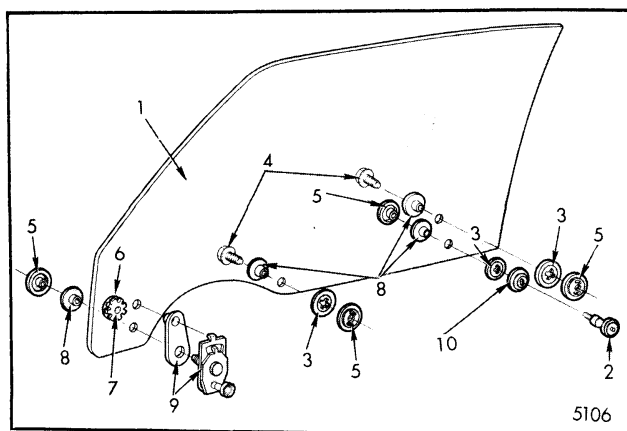

Fig. 5-103-Door Window Assembly
Figure 5-103 is an exploded view of the window assembly and identifies the various components and their assembly sequence.
**NOTE:** When installing glass attachments, torque attaching nuts to 72 inch pounds (6 foot pounds). Also, when replacing door glass, replace door glass washers and spacers ("3" and "8", Fig. 5-103).